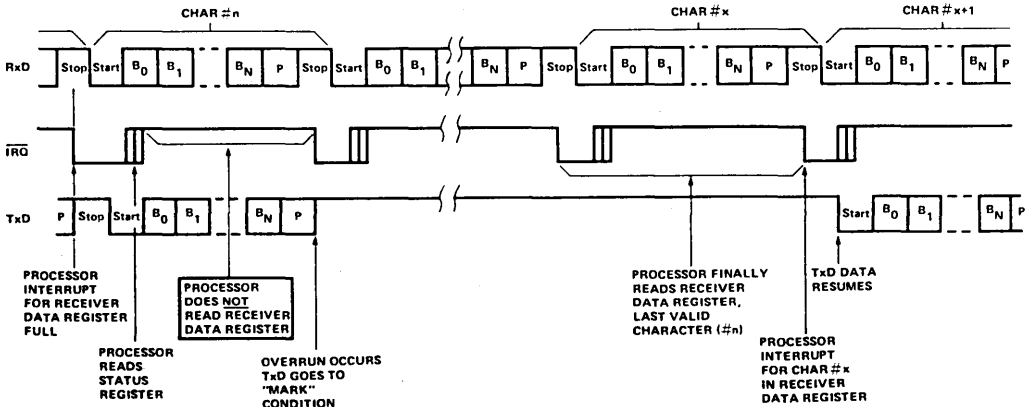

Figure 4-8. OVERRUN IN ECHO MODE
4.1.8 Overrun in Echo Mode (Figure 4-8)